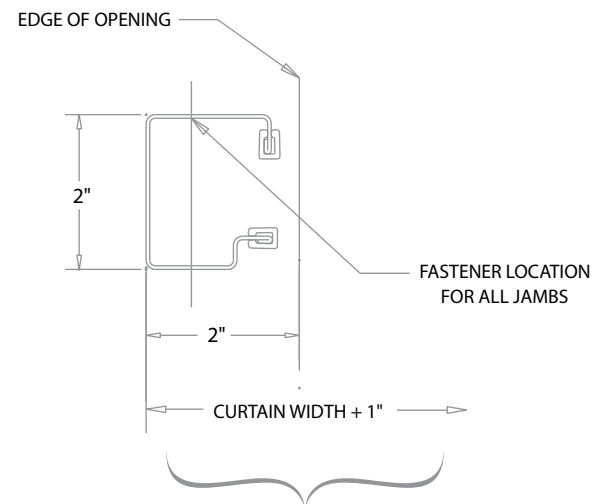

FIGURE 7
- The guides should be mounted centered about the opening and spaced curtain width + 1" apart measured from back of guide to back of guide. **See figure 7.** Both guides must be plumb.